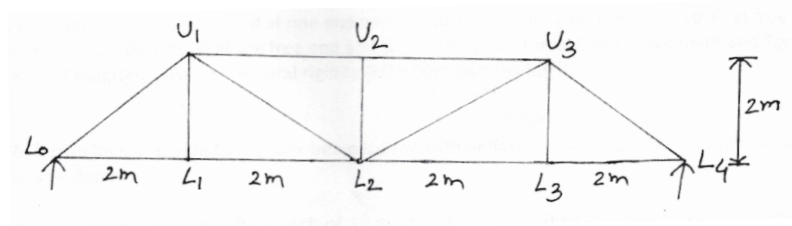

Fig. 3
- Q2) a)** Draw the influence line diagram for the member $U_2 U_3$, $L_2 L_3$, and $U_2 L_2$ of a truss as shown in fig. 3. [8]